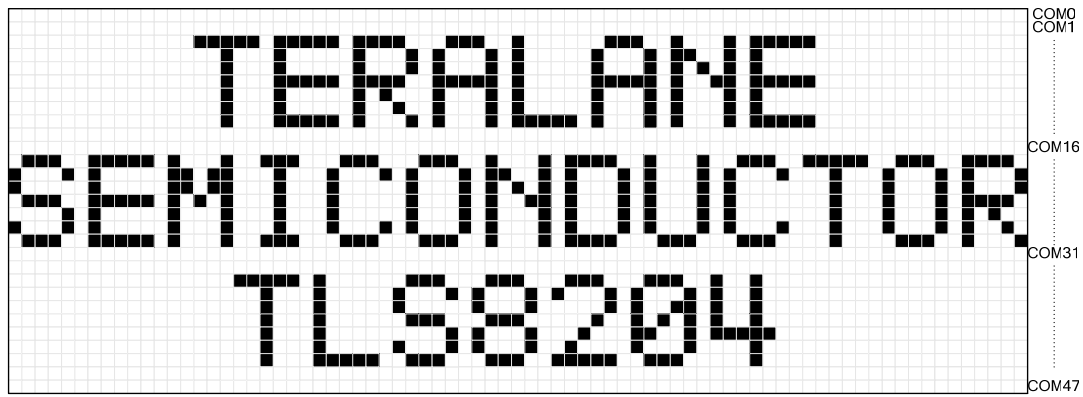

Figure 7 Reference example for Partial Display (full display case)
The timing of common scan and its synchronization with segment outputs is controlled by the display timing controller circuits. Based on display clock, the display data is read, latched and sent to the segment driver circuits in synchronous with the common scanning. Frame alternating polarity driving is provided to give an ac drive to liquid crystal displays. The driving polarity is inversed by every frame controlled by the alternating drive signal (FR) generated internally by the timing controller circuits. This is referred in Figure 7.
The driver circuits output the driving waveforms required by a liquid crystal display. The waveform is jointly determined by the common scan signal, display pattern and the FR signal. Figure 7 shows an example of the COM and SEG output waveforms.